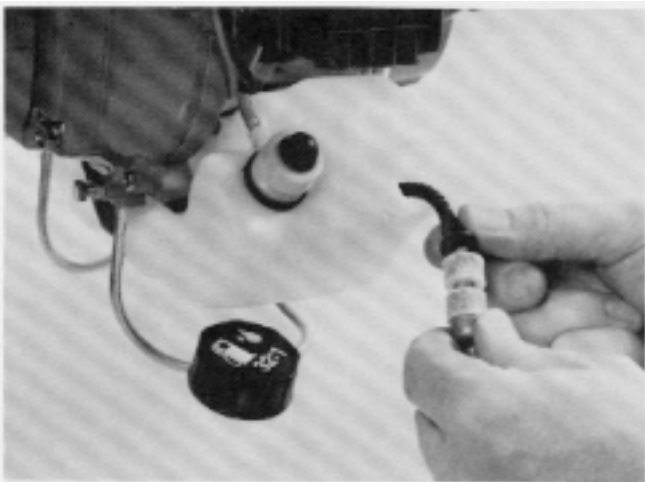

Figure 46
- The fuel filter on the pickup tube can be inspected without removing the pickup assembly by "fishing" the filter out through the filter hole. See Figure 46.